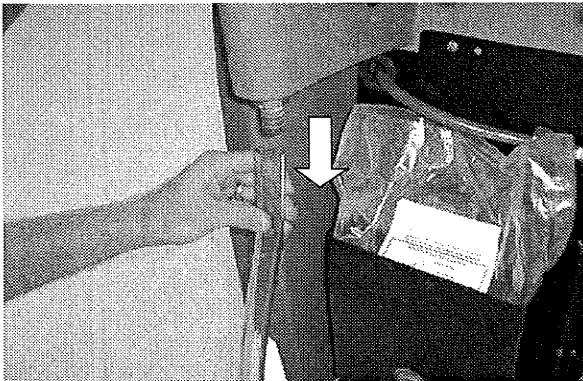

FIG. 39
4. Drain solution tank of all water, tilt back machine to completely drain (Figure 39).